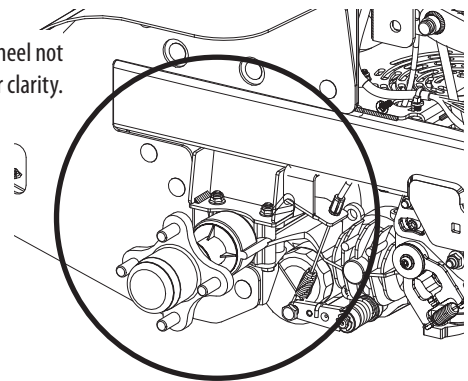

Fig. 19
- Clean around and near the transmission, axle and the fan area (Fig. 19).